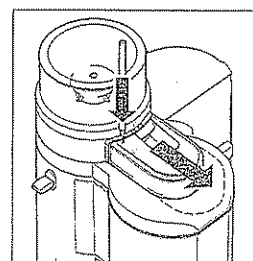

Figure 18
- Using a pointed object (e.g. a ball pen) to unlock the cover of the grinding channel (Figure 1G and Figure 18) and pull the cover towards the front.